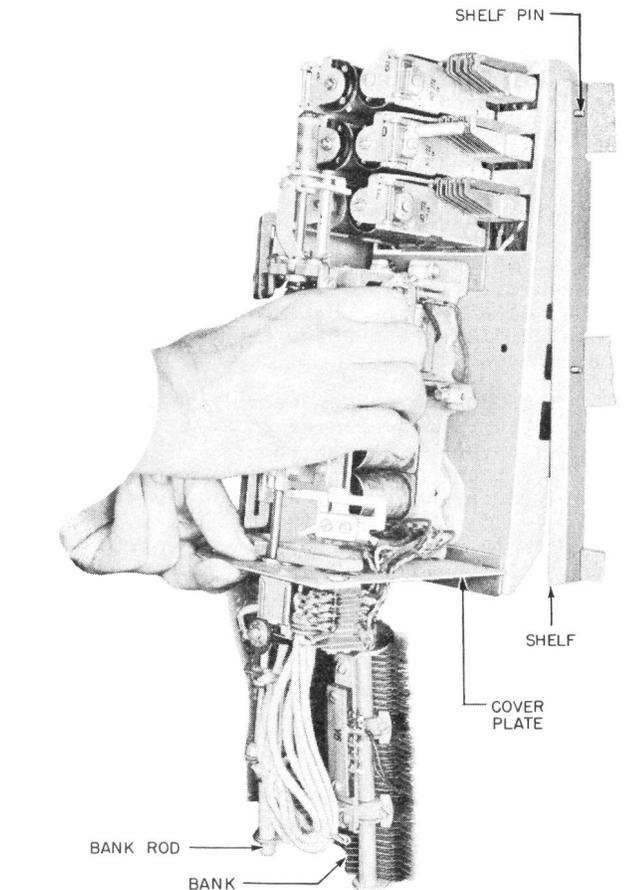

FIG 4 - METHOD OF REMOVING SWITCH FROM FRAME
3.11 Place the left hand under the cover plate of the switch and grasp the switch firmly with the right hand as shown in Fig. 4. The thumb should rest on the release armature bracket on the left of the switch and the first three fingers should rest on the release armature on the right. Then, while pressing the switch inward, lift it upward until the shelf pins are opposite the slot openings. Hold the switch in this position with the right hand, and at the same time, steady the bank with the left hand and exert a slight pressure toward the shelf so as to prevent the wipers from snagging on the bank contacts. When clearance is assured, regrasp the cover plate with the left hand and tilt the lower portion of the switch forward to avoid damage to the wipers. Then draw the switch forward free of the shelf.